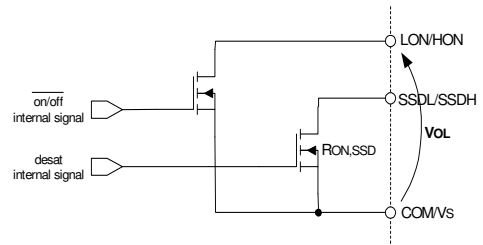

Figure 6: HON, LON, SSDH and SSDL Diagram
**Pins: HON, LON, SSDH, SSDL (refer to Fig. 6)**